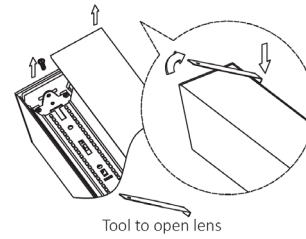

Fig. 2.1
1. Remove the lens with the tool provided and then remove the LED reflector strip. (Fig. 2.1 & 2.2)
1. Remove lens and LED reflector strip (see *Surface Mount instructions*). (Fig. 2.1 & 2.2)
1. Remove lens and LED reflector strip (see *Surface Mount Instructions*). (Fig. 2.1 & 2.2)